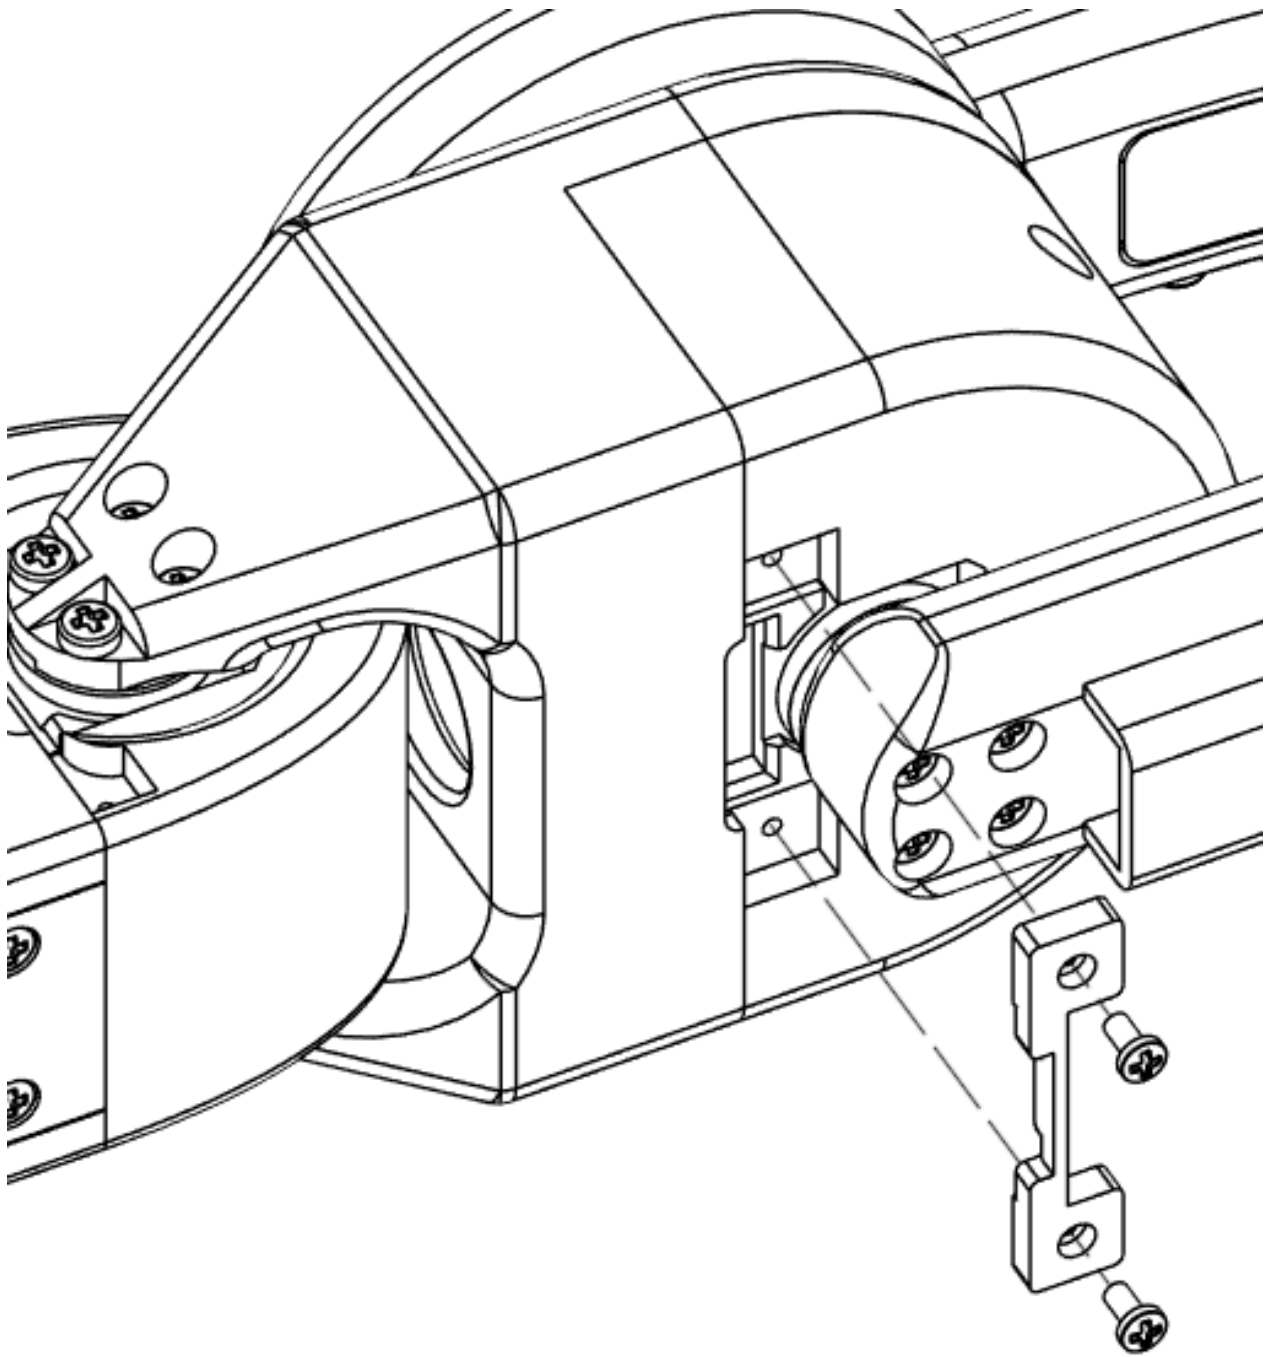

Figure 10.25 - Motor 2 Wire Clip Assembly
- 31.** Fasten Motor 2 Wire Clip to Motor 2 Support as shown in Figure 10.25
- a.** (2) M2x5mm
- b. NOTE:** Arm Wires are not shown in Figure 10.25